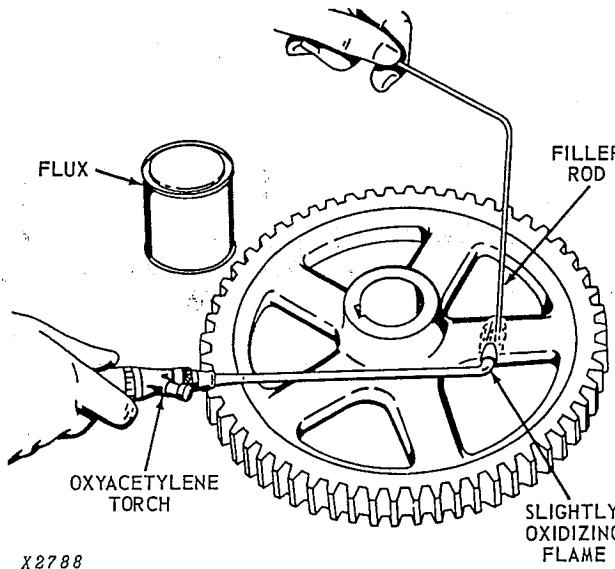

Fig. 108 — Braze Welding
**Bronze welding** is a typical braze welding operation. This technique is frequently used for joining or repairing such metals as cast iron, malleable castings, copper, brass, and various dissimilar metals. See Fig. 108. The bronze filler rod which is applied to the seam consists of copper and zinc with small quantities of tin, iron, manganese, and silicon.